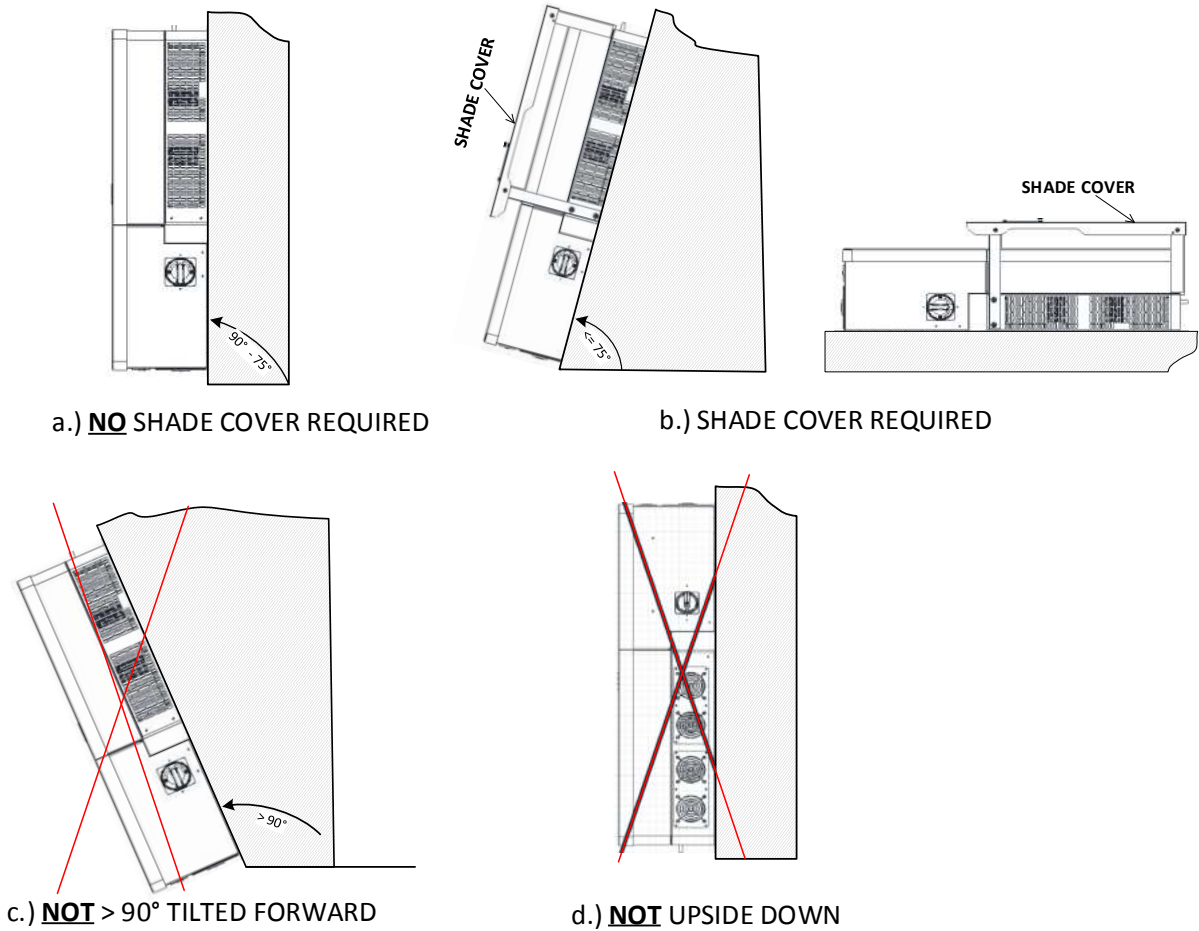

Figure 3-2 Inverter Mounting Options
3.2.2. Installation Method (see Figure 3-2):